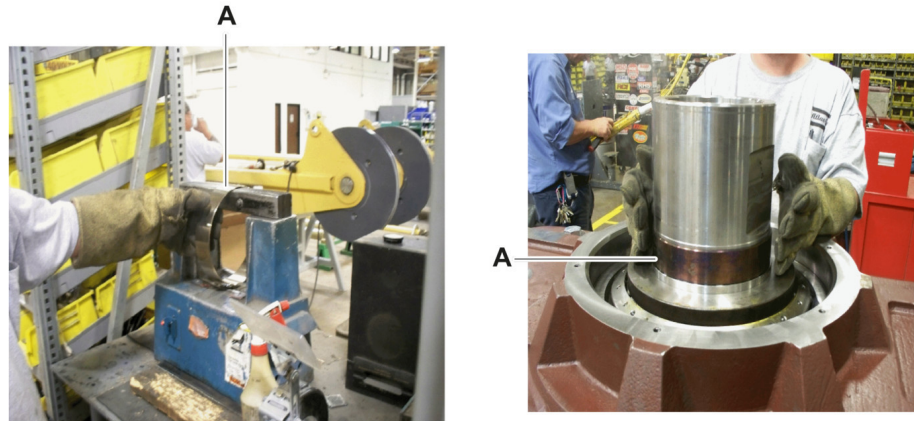

Figure 3
5. Heat the oil seal wear sleeve (Figure 3, item A) to between 177 °C and 191 °C (350 °F and 375 °F).